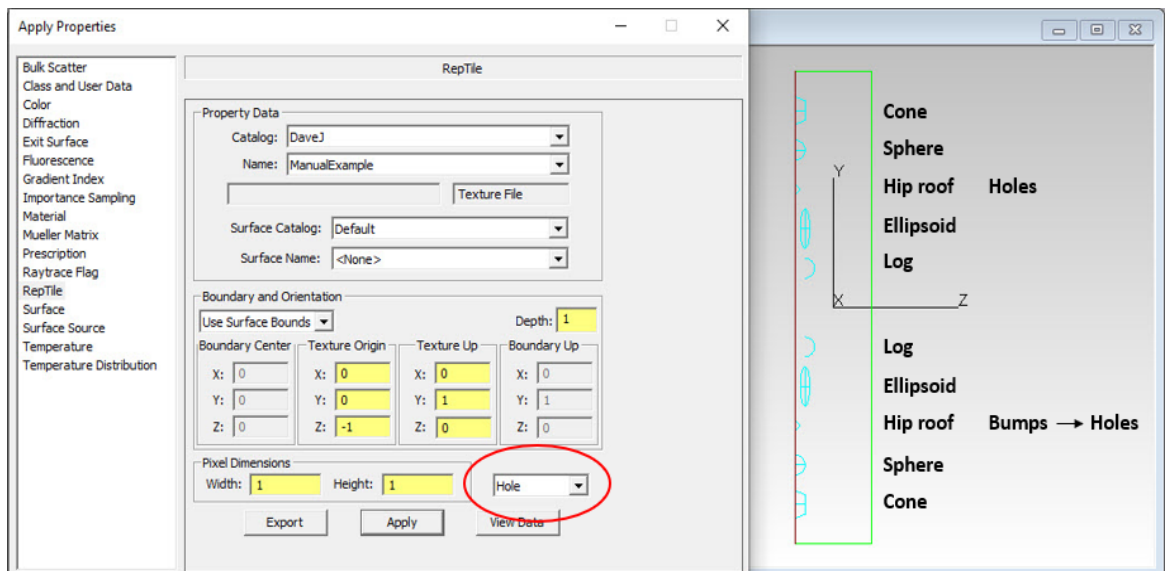

FIGURE 4.37 - Textured RepTile visualization showing the Hole orientation for a RepTile property that originally contains Holes and Bumps.
- Figure 4.37: Hole features, so all features are treated as holes, and